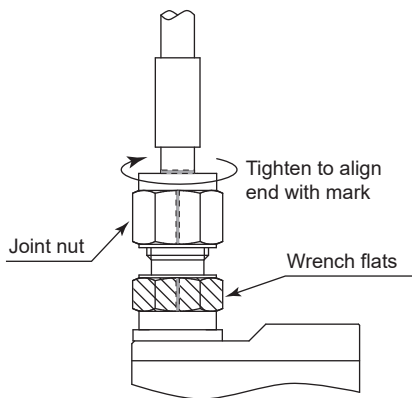

Fig. 24
- ② Fit an adjustable wrench on the wrench flats (shaded area) of the high-pressure coolant fitting to hold it in place, and use another adjustable wrench to tighten the joint nut to its original tightening position. (Check that the matching lines are aligned and the end of the joint nut is aligned with the mark on the hose). (Fig. 24)